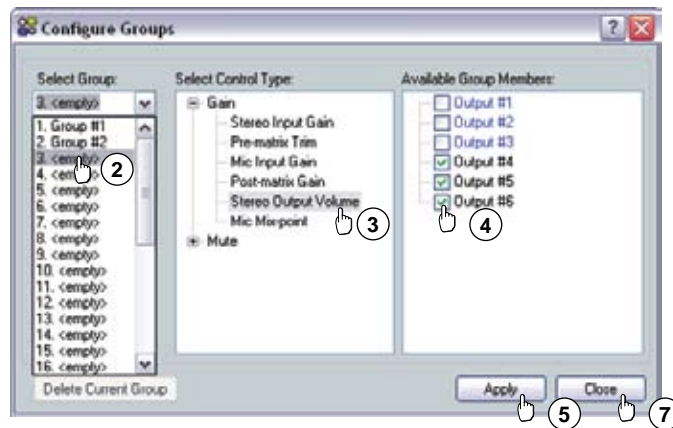

Figure 5-11 — Configure Groups dialog box
2. In the Select Group drop-down box, click a group to select it (figure 5-11).
2. In the Select Group drop-down box, click a numbered group (such as "Group #1") to select it (figure 5-11).
- Click **Add a Group** to open the Configure Groups dialog box. See "Configuring a group master" and figure 5-11.